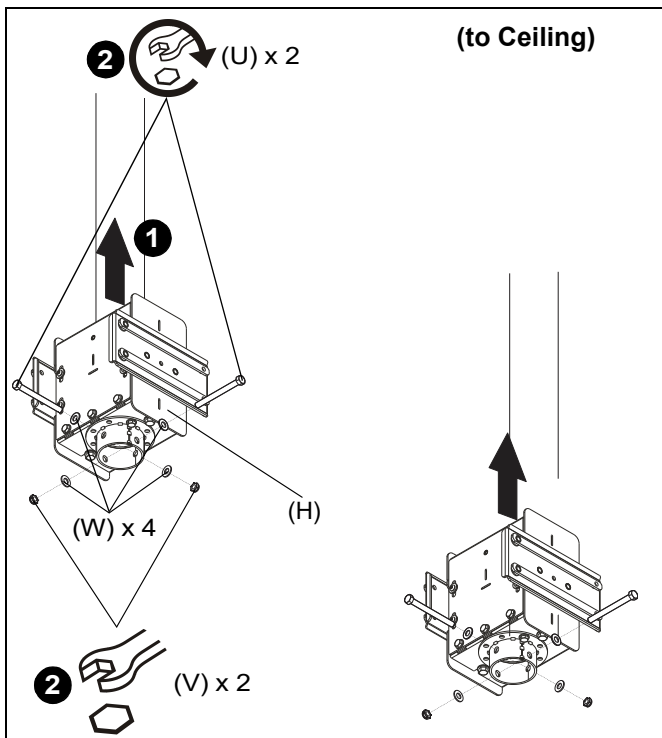
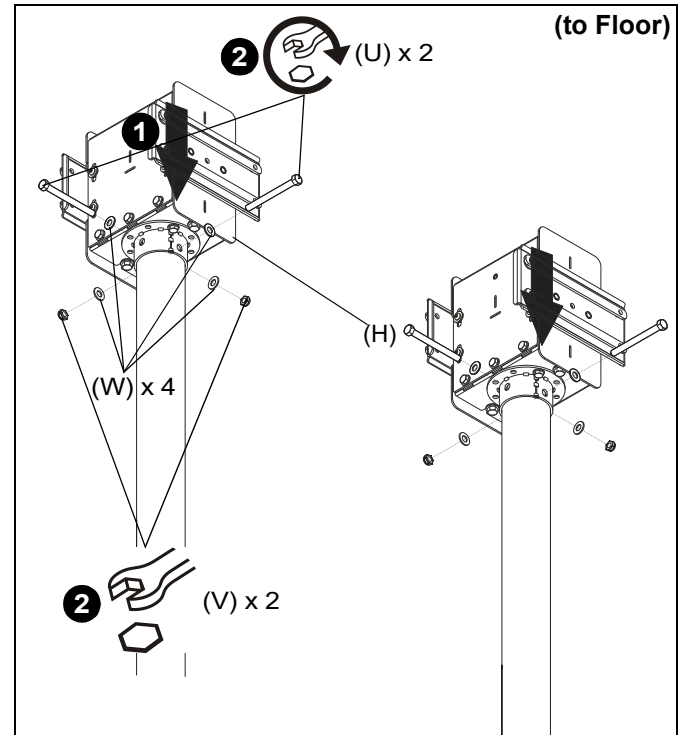

Figure 1
Figure 2
- Slide mount assemblies (H) onto ODAC Series Floor/Ceiling Columns. (See Figure 1) or (See Figure 2)
- Use two 3/8-16 x 4" hex head tapping bolts (U), four 3/8" washers (W) and two 3/8-16 hex nuts (V) to secure each mount assembly (H) to each column. (See Figure 1) or (See Figure 2)